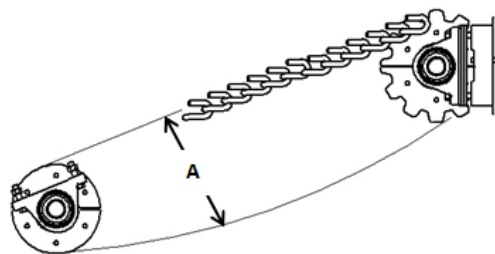

Figure 54: Distance between Top and Bottom Chains
**NOTE:** Machines with rubber paddles have zero spacers installed on the lower apron shaft (see Figure 54). Machines with plastic paddles have 4 spacers installed on the lower apron shaft with additional spacers included in the hardware kit.